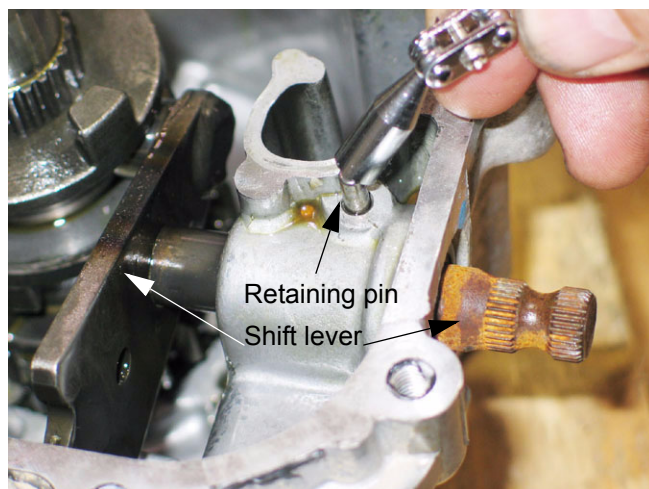

Figure 9.40
9.40. Use a magnet to remove the pin that retains the shift lever. See Figure 9.40.